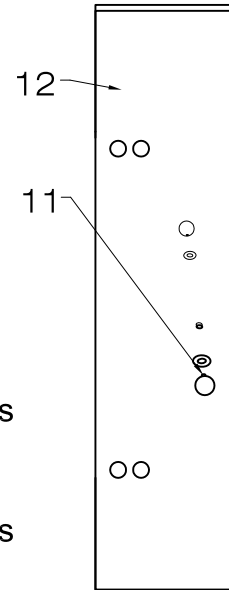

FIG. 5
1. Assemble the door handles (#11) to the door (#12). [SEE FIG.5]